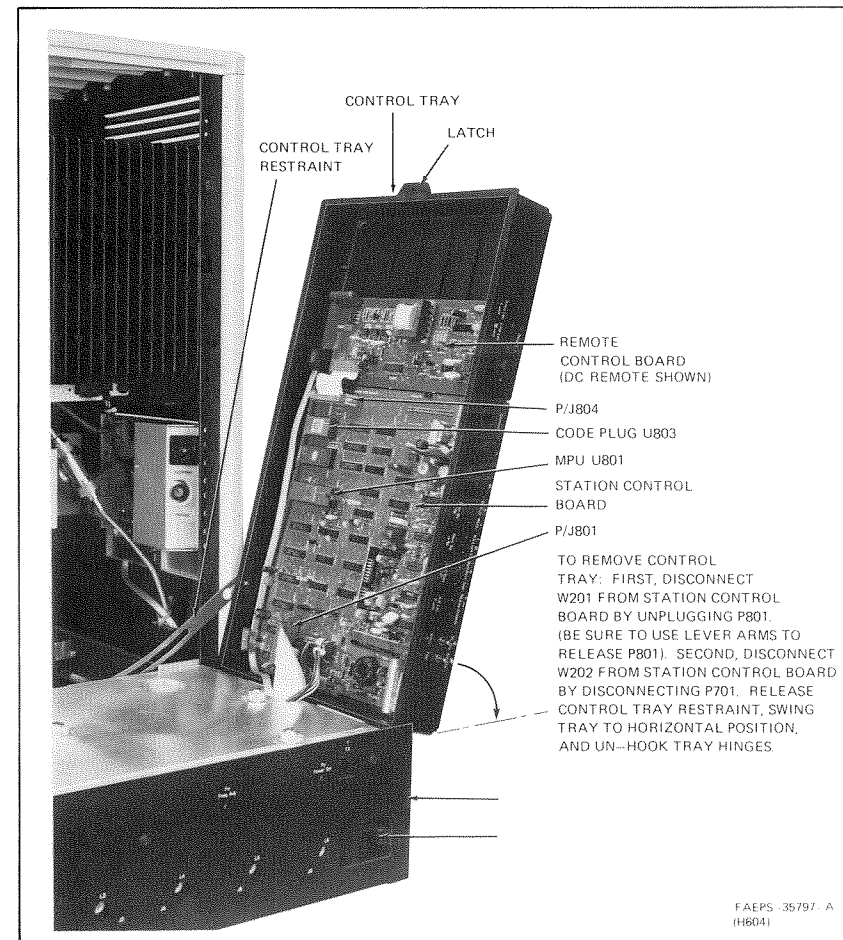

Figure 5. Internal View of Station Control Tray
- Step 4. Unplug P804 from J804 (see Figure 5).